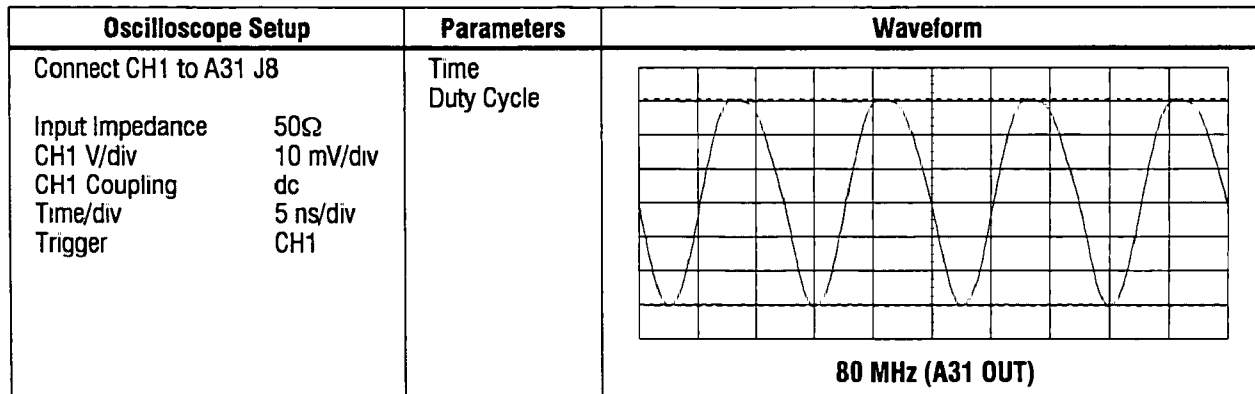

Figure 5-5. 80 MHz Reference Signal
12. Using an oscilloscope and a 10:1 resistive divider probe with input capacitance of <0.7 pF and input resistance of 500Ω, check the following signal in figure 5-5 .
15. Set the power switch to ON (I). Check the signals in figure 5-5 again. If the signals are now correct, the ADC/Digital Filter assembly's EXT_CLK signal is probably faulty. If the signals are still incorrect, the CPU assembly is probably faulty.